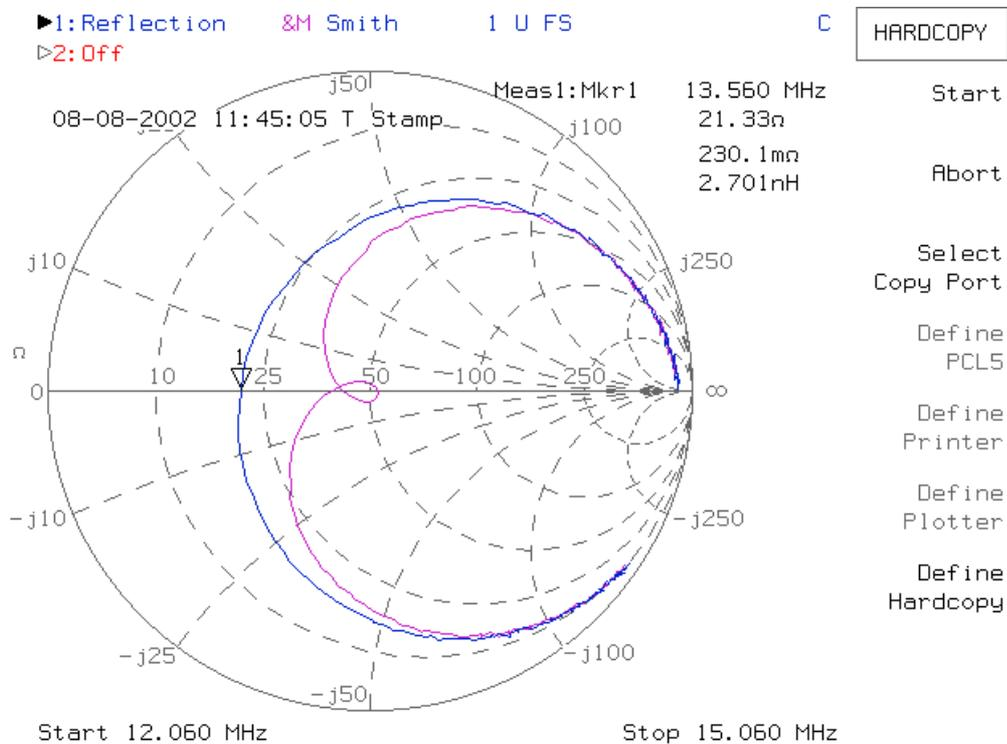

Figure 2, Active Antenna
- Turn on all three (3) trimmers until a similar diagram (fig. 2) is reached (C10 and C11 should have more or less the same capacity, symmetrical).